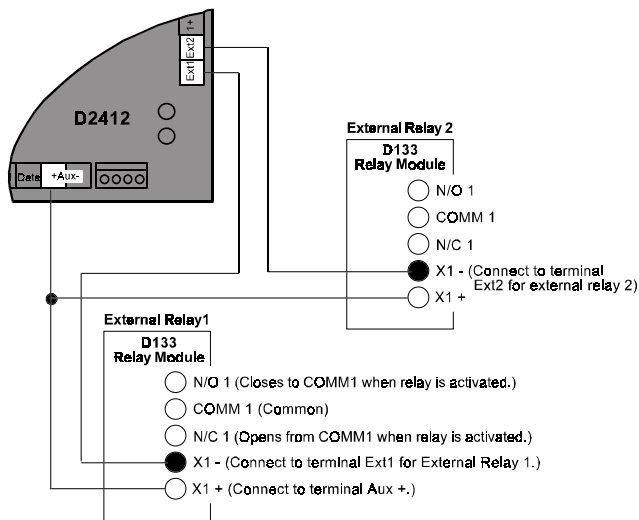

Figure 5: External Relay Wiring
Use a 2k ohm end-of-line resistor for Point 1. See Figure 5 on page 9 for point wiring.
Terminate each sensor loop with a 1.0k ohm end-of-line resistor. See Figure 5 for point wiring.
**Burglary Devices:** Connect any number (limited by available power) of burglary devices to any point. Do not combine fire detection and burglary devices on the same point. For UL installations, wire a sounding device (such as a buzzer) to one of the external relays (terminals Ext1 and Ext2) and to terminal +Alrm (Alarm Output). See Figure 5. Program the relay for Function 3 to provide announcement of troubles for all fire points (see *RELAYS Group* in the *Program Entry Guide*).